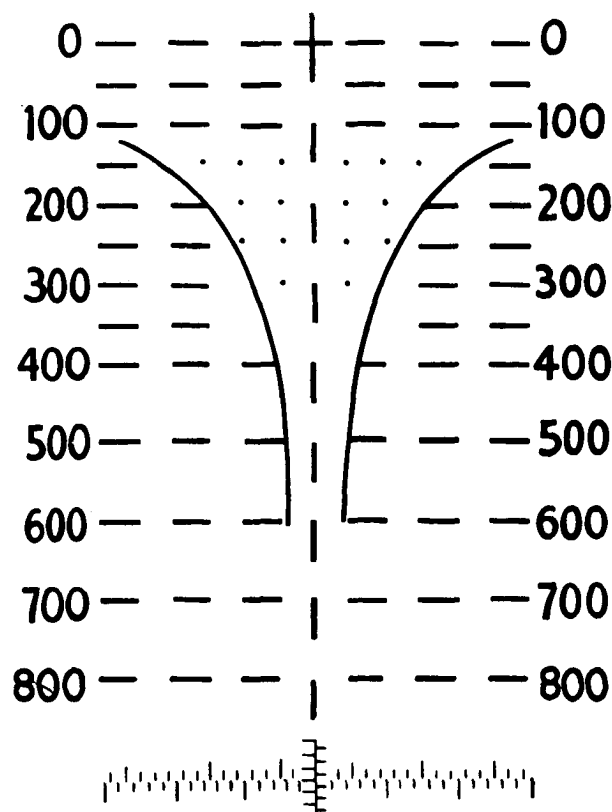

Figure 3. Sight reticle, M103 sight.
a. The M103 telescope has a fixed-focus, 3-power magnification, and a field of view of 10° (fig. 3).
b. The reticle is an optical glass disc with an 0.749-inch aperture etched with a metric scale. It is graduated at 50-meter intervals at ranges up to 800 meters, and numbered every 100 meters up to 800 meters. Lead lines are provided at 50-meter intervals up to 400 meters and at 100-meter intervals between 400 and 800 meters. The top vertical line is extended through the 0 line to form a bore-sight cross. Lead lines and spaces, each representing 5 mils, are provided horizontally for 30 mils on either side of the vertical centerline. Sixty 1-mil spaces along the 800-meter range line and twelve 1-mil spaces along the vertical axis are provided for small adjustments to the line of fire. Stadia lines are provided for ranging on targets having a 10- or 20-foot dimension. A level vial at the bottom of the reticle provides a zero cant reference for the telescope so that it may be kept level (fig. 3).